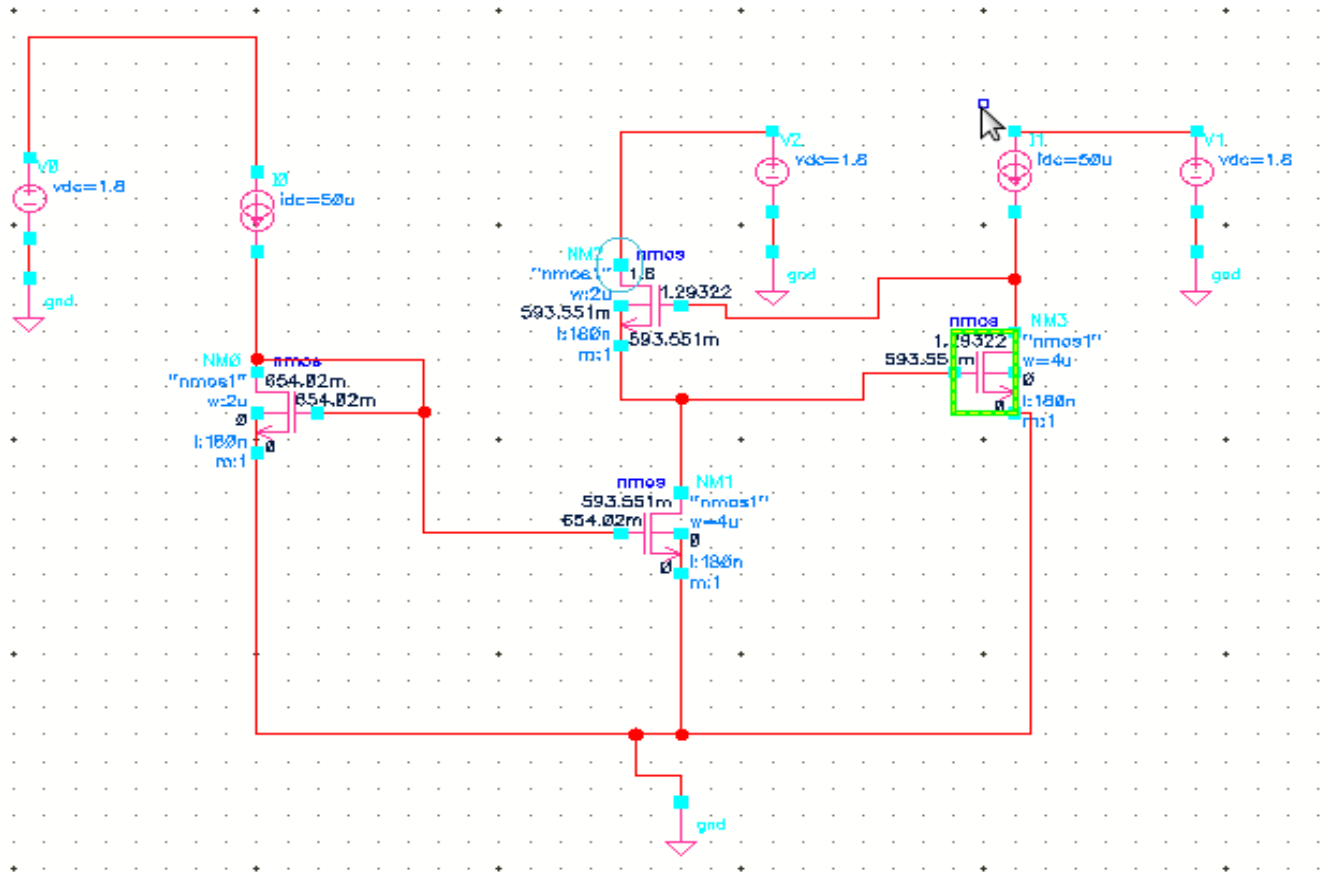

Figure 4 (b): Regulated cascode current mirror circuit.
1. To Design a Modified Wilson current mirror as shown in fig. 4(a) to provide an output current of  $100 \mu\text{A}$ .